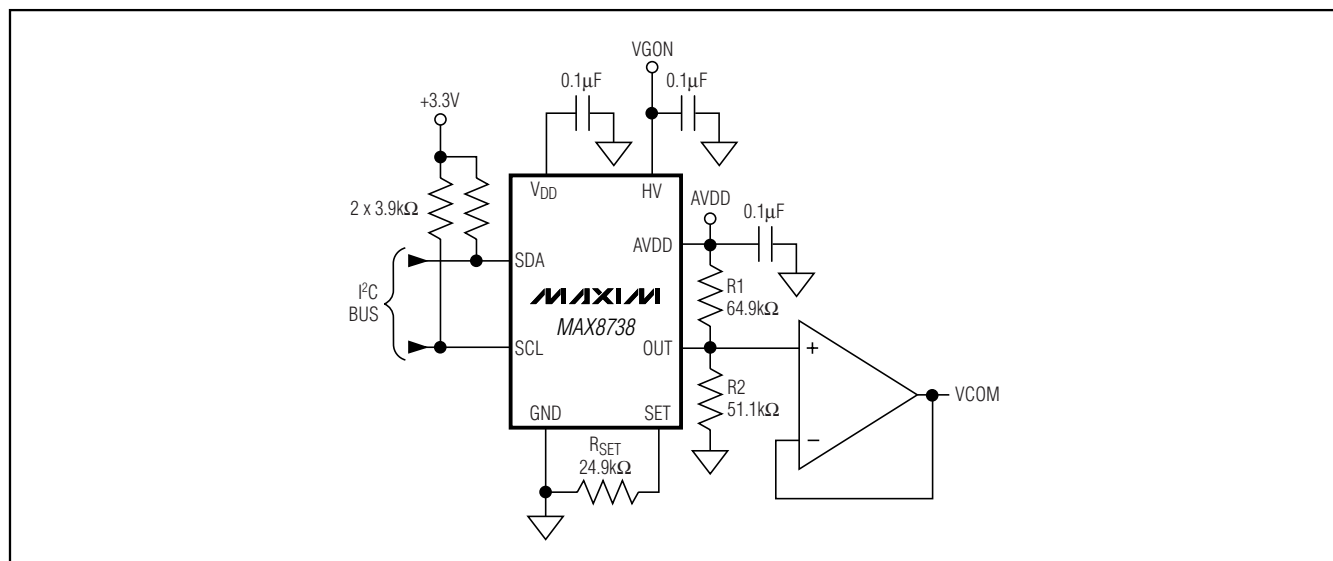
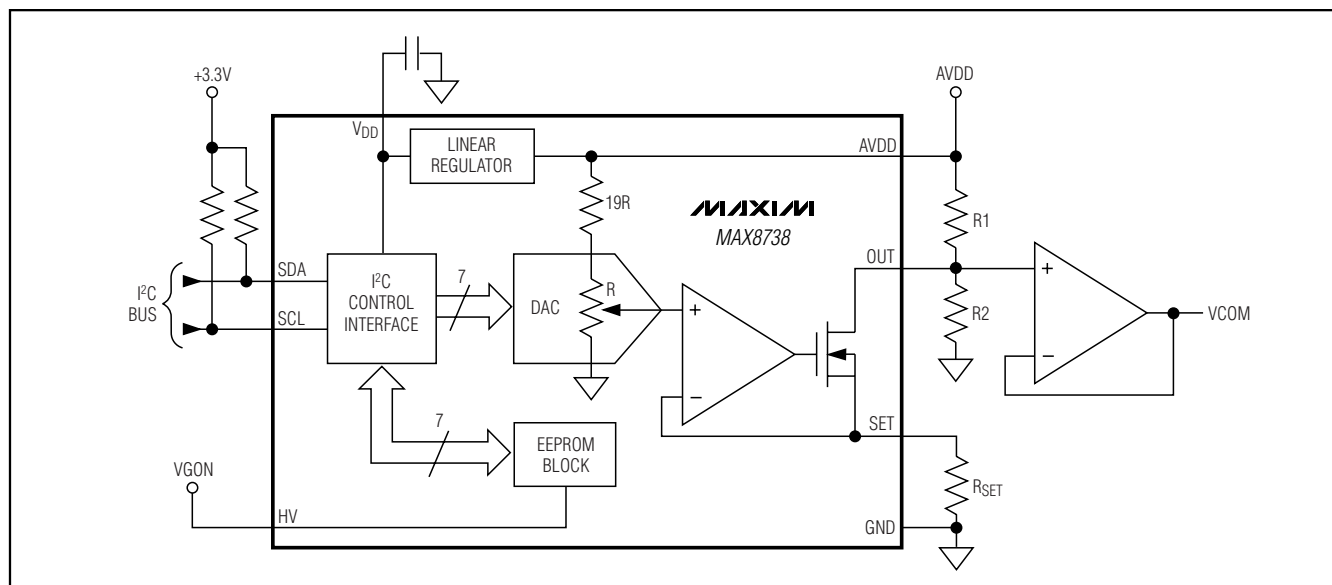

Figure 2. Standard Application Circuit
Figure 3. Simplified Functional Diagram
The MAX8738 is a solid-state alternative to mechanical potentiometers used for adjusting the LCD backplane voltage (VCOM) in TFT LCD displays. The MAX8738 attaches to an external resistive voltage-divider and sinks a programmable current (I_{OUT}), which sets the VCOM level (Figure 2). An internal 7-bit DAC controls the sink current and allows the user to increase or decrease the VCOM level (Figure 3). The DAC is ratio-metric relative to V_{AVDD} and is monotonic over all operating conditions. The user can store the DAC setting in an internal EEPROM. On power-up, the EEPROM presets the DAC to the last stored setting. The 2-wire I²C interface between the LCD panel and the programming circuit adjusts the DAC and programs the EEPROM.
- 1) Place the VCOM buffer and the R1/R2 voltage-divider close to the OUT pin (Figure 2).